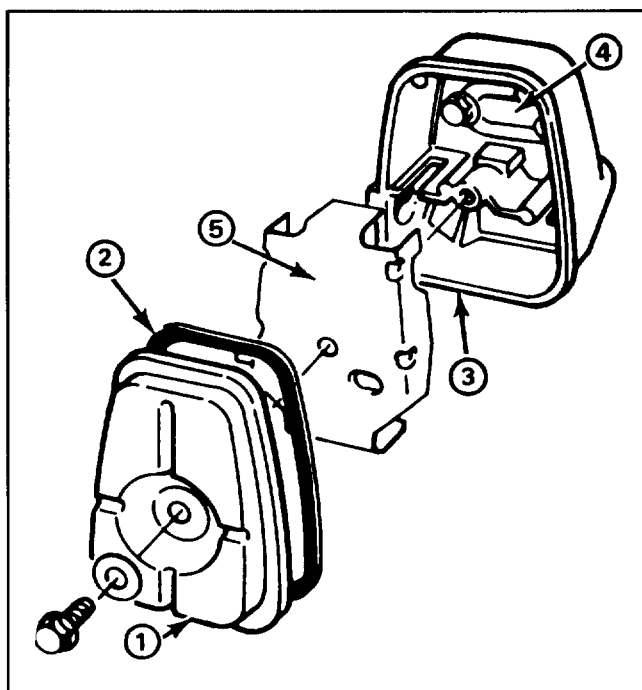

Figure 16
2. Mounting screws (3)
4. Rotate the engine crankshaft until the piston totally covers the exhaust port (Fig. 16). Clean the exhaust port area by using a clean, flat piece of hard wood. Remove all loose particles.